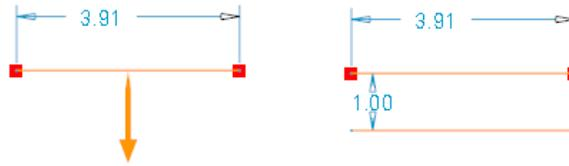
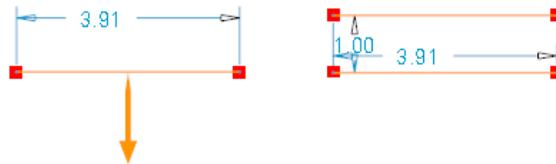

Figure 3-19 Offset created with a positive value
Figure 3-20 Offset created with a negative value
2. Enter the offset value in the **Enter offset in the direction of the arrow [Quit]** edit box and choose the **OK** button. Depending upon the value specified, a copy of the selected geometry will be created in the drawing area. Note that, if you specify a positive value, the entity will get offset in the direction of arrow, refer to Figure 3-19. If you specify a negative value in the edit box, the offset geometry will be created in a direction opposite to the direction of arrow, refer to Figure 3-20.